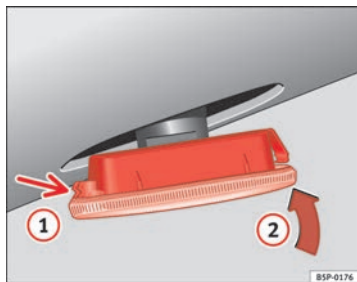

Fig. 174 Side turn signal
- First place the turn signal in the opening in the bodywork, fixing the tabs ⇒ fig. 174, arrow ①.
- Insert the turn signal as shown by the arrow ② ⇒ fig. 174. ■